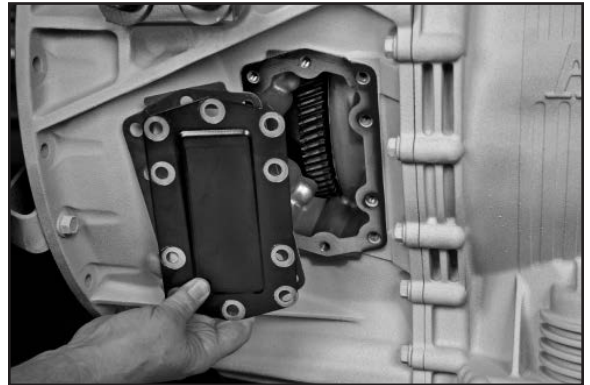

Fig. 16
3. Remove the gasket and clean the aperture surface (**Fig. 16**).